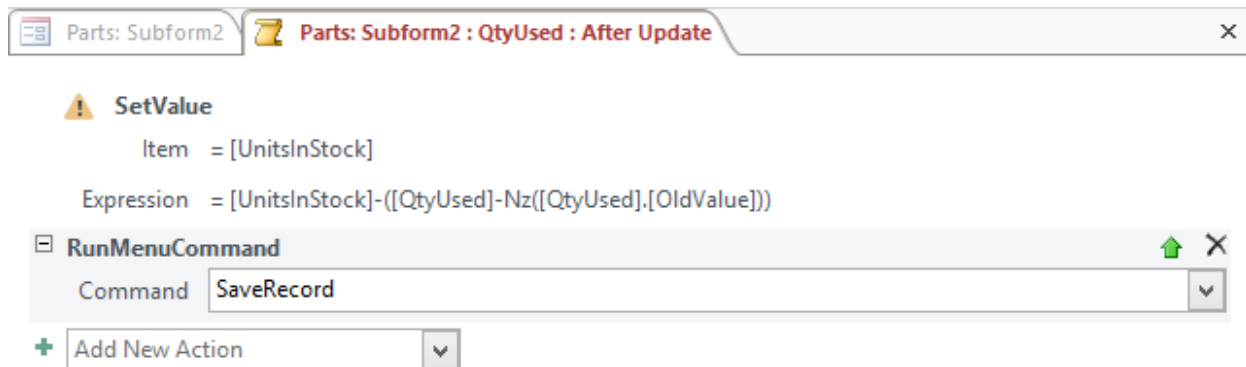

Figure 43: Macro with *RunMenuCommand* Action and Arguments
4. Add *RunCommand* Action and Argument Values: Add a new action with “RunMenuCommand” as the action. In the argument area, choose “SaveRecord” from the command list. Figure 43 shows the resulting macro.